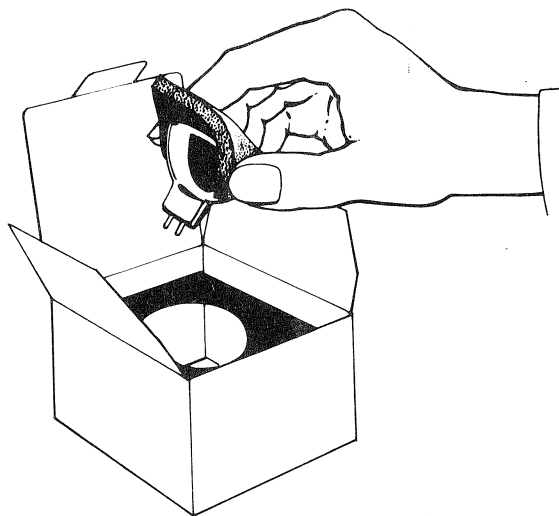

Figure 12
- 3.5 FITTING THE LAMPS (Figs. 12 & 13)
UNDER NO CIRCUMSTANCES MUST THE LAMPS BE TOUCHED BY HAND. THEY SHOULD ONLY BE HANDLED BY USING THE PACKING FROM THE LAMP CARTON, (FIG. 12).